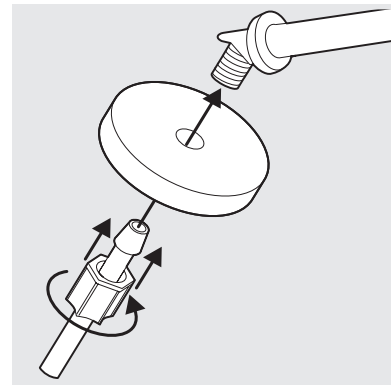

Figure 5
9. Push the tube seal over the threads (Figure 5). Push the plastic water supply tubing into the water inlet tube as far as it will go and finger tighten the nylon compression nut onto the threaded end of the inlet tube. Tighten another 1/2 turn with a wrench. DO NOT overtighten.